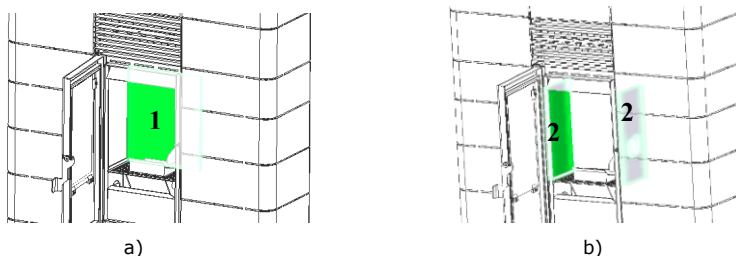

Figure 111 - Removing vermiculite parts
Next, remove the vermiculite parts, by detaching them from their support brackets (Figure 111). To remove them, you must follow a sequence, first removing the rear vermiculite (1) and only then the side parts (2).